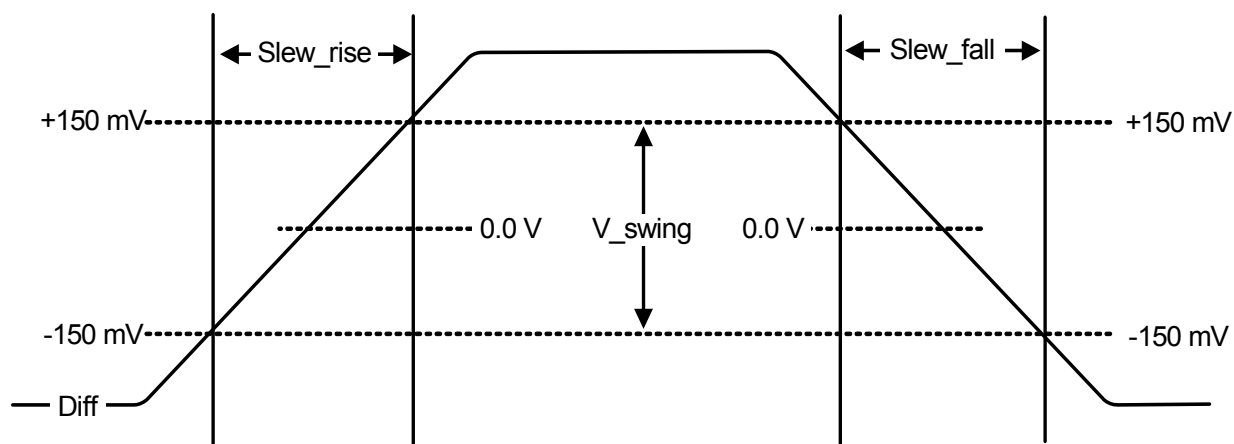

Figure 3. Measurement Points for Rise Time and Fall Time
17. Vcross(rel) Min and Max are derived using the following, Vcross(rel) Min =  $0.250 + 0.5 (V_{havg} - 0.700)$ , Vcross(rel) Max =  $0.550 - 0.5 (0.700 - V_{havg})$ , (see Figure 3–4 for further clarification).